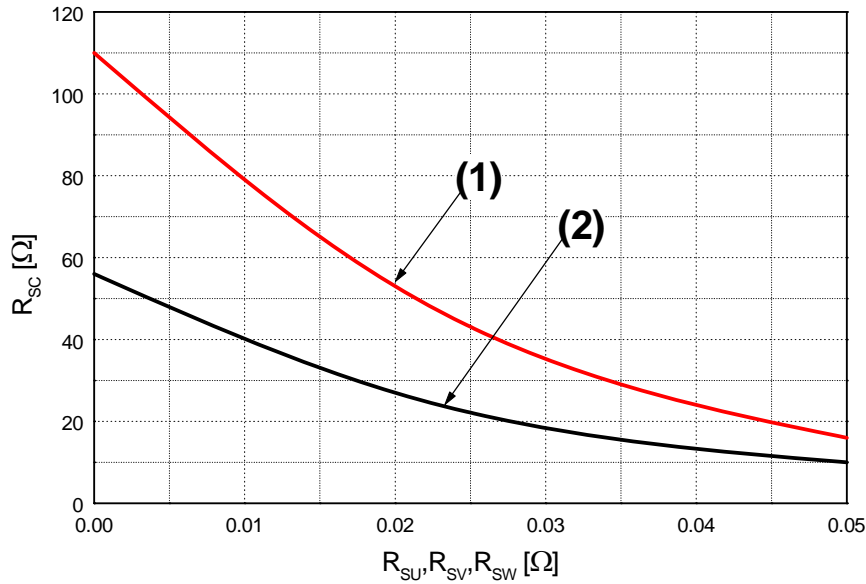

Figure 6. R_{SC} Variation by Change of Shunt Resistors (R_{SU}, R_{SV}, R_{SW}) for Short-Circuit Protection
- Short-circuit protection is functioning only at the low-sides. It would be recommended that the value of the external sensing resistor (R_{SC}) should be selected around 56 Ω in order to make the SC trip-level of about 45A. at the shunt resistors (R_{SU}, R_{SV}, R_{SW}) of 0 Ω. For the detailed information about the relationship between the external sensing resistor (R_{SC}) and the shunt resistors (R_{SU}, R_{SV}, R_{SW}), please see Figure 6.